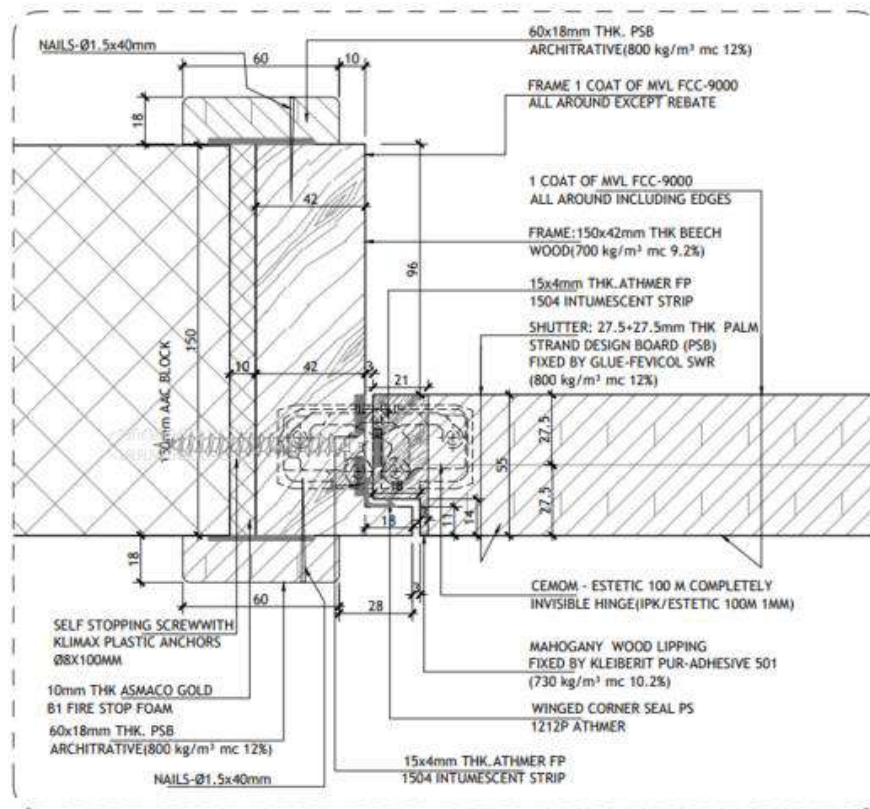

Figure 3. Vertical Jamb Details
The doorset consisted of a door frame with a cross-section of 42 x 150 mm, as shown in Figures 3 and 4. The frame was made of Beechwood hardwood with a stated density of nominal 730kg/m³ (700kg/m³ and moisture content of 9.2%, declared by the client) supplied by Florian Legno, S.p.A, Italy. The jambs and head of the door frame were joined at the corners using miter joints, secured with one (2) Ø6 x 48 mm long fine thread stainless steel drywall screws, manufactured by MT Werkz, positioned at each frame head. Additionally, the frame components were bonded together using PW 1612 wood glue produced by Ritver Paints & Coatings. A single coat of FCC-9000 Flame Core Coat, manufactured and supplied by MVL Fire Stop, was applied to both the exposed and unexposed faces of the frame as well as the inner side, with the exception of the rebate.
The 18 x 60 mm architrave was installed on both sides of the door frame jambs using five (5) Ø1.5 x 40 mm nails, spaced approximately 480 mm center-to-center. Additionally, the architrave was secured to the top of the frame with three (3) Ø1.5 x 40 mm nails on each side, approximately 120 mm from each edge, along with an additional nail positioned at the center as illustrated in Figures 3 and 4.
The door leaf was constructed from a 55 mm thick Desert Board PSB FR, which featured 21mm thick African Mahogany wood lipping on three (3) sides and 3 mm thick lipping on the bottom side of the leaf. The Desert Board PSB FR, manufactured by Al Talah Board Manufacturing Co. LTD, Abu Dhabi and supplied by Al Talah Board Manufacturing Company Ltd, had a stated density of 800kg/m³ and a stated moisture content of 12% (870kg/m³ calculated by Certification). It was composed of two (2) 27.5 mm layers that were bonded together using Fecicol SWR super synthetic resin adhesive, manufactured by Pidilite Industries. A single FCC-9000 Flame Core Coat coat was applied to both sides of the leaf, including all four (4) edges. as shown in Figure 3 and 4.
The 21mm and 3mm thick African Mahogany wood lipping, supplied by Danube Building Materials FZCO, had a density of 730kg/m³ and a moisture content of content 10.4% (declared by the client) . It was securely attached to the edges of the core using Kleiberit 501.0 PUR adhesive, manufactured by Klebchemie M.G Becker GmbH & Co., as shown in Figure 3 and 4.
- Two (2) 15 x 4mm thick intumescent seals (Athmer FP 1504- brown color), manufactured by Athmer, were installed 5mm and 25mm from the rebate. (see Figures 3 and 4).
- A single winged corner seal (PS1212P – brown color) produced by Athmer has been installed on all three sides of the frame. (see Figures 3 and 4).
- One (1) 15 x 4mm thick intumescent seals (Athmer FP 1504- brown color), manufactured by Athmer, were installed 13mm from the opening edge. (see Figures 3 and 4).
A 10mm gap between the door frame and the supporting structure was filled with Asmaco Gold Universal Multifoam (B1) Fire Retardant manufactured by Asmaco and supplied by Anchor Allied Factory LLC. Additionally, Ø8 x 100mm self-tapping screws with Klimax plastic anchors were installed approximately 480mm apart, in five (5) vertical locations on both jambs as shown in Figure 3.